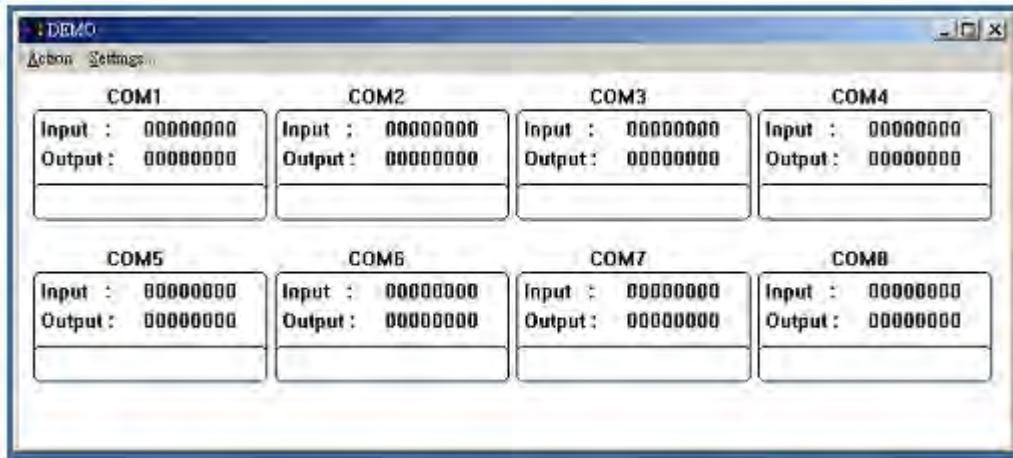

Fig.5
2. Run the "DEMO.EXE" utility (See the Figure 5).